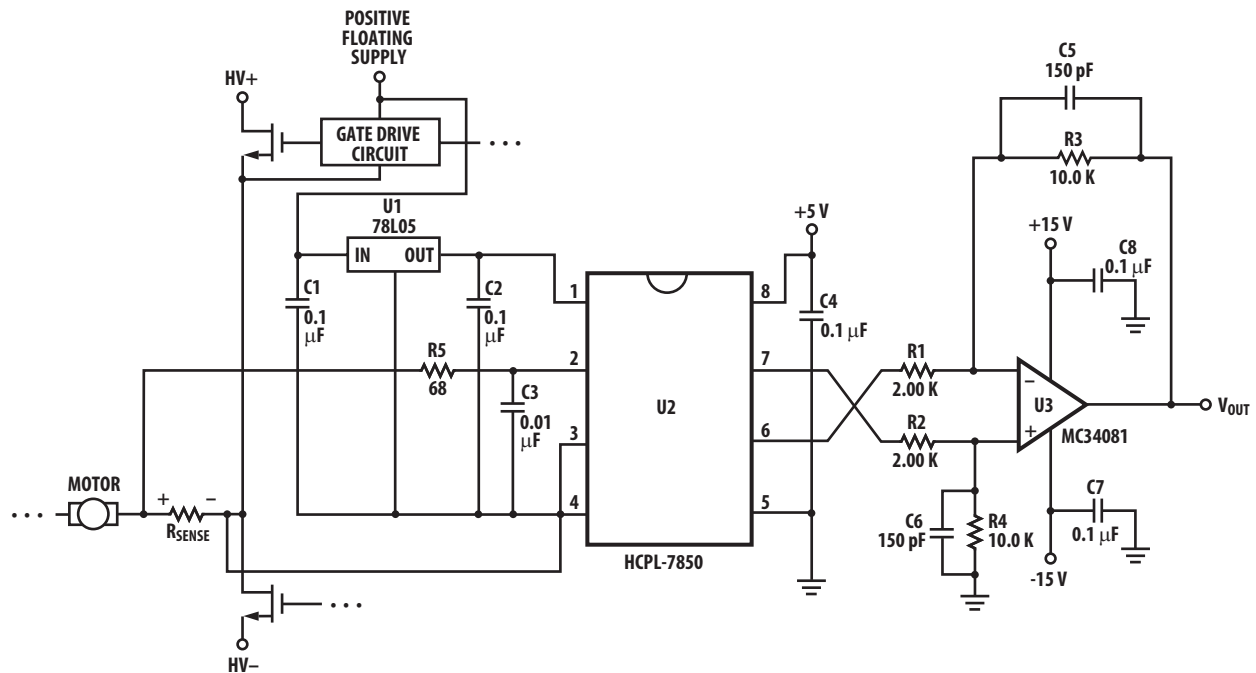

Figure 24. Recommended Application Circuit.
8. CMR (also known as IMR or Isolation Mode Rejection) specifies the minimum rate of rise of a common mode signal applied across the isolation boundary at which small output perturbations begin to occur. These output perturbations can occur with both the rising and falling edges of the common mode waveform and may be of either polarity. A CMR failure is defined as a perturbation exceeding 200 mV at the output of the recommended application circuit (Figure 24). See Applications section for more information on CMR.
The recommended application circuit is shown in Figure 24. A floating power supply (which in many applications could be the same supply that is used to drive the high-side power transistor) is regulated to 5 V using a simple three-terminal voltage regulator (U1). The voltage from the current sensing resistor, or shunt ( $R_{sense}$ ), is applied to the input of the HCPL-7850 through an RC anti-aliasing filter ( $R5$ ,  $C3$ ). And finally, the differential output of the isolation amplifier is converted to a ground-referenced single-ended output voltage with a simple differential amplifier circuit (U3 and associated components). Although the application circuit is relatively simple, a few recommendations should be followed to ensure optimal performance.
As shown in Figure 24, a 0.1  $\mu$ F bypass capacitor ( $C2$ ,  $C4$ ) should be located as close as possible to the input and output power supply pins of the HCPL-7850. The bypass capacitors are required because of the high-speed digital nature of the signals inside the isolation amplifier. A 0.01  $\mu$ F bypass capacitor ( $C3$ ) is also recommended at the input pin(s) due to the switched-capacitor nature of the input circuit. The input bypass capacitor should be at least 1000 pF to maintain gain accuracy of the isolation amplifier.
The recommended method for connecting the isolation amplifier to the shunt resistor is shown in Figure 24. Pin 2 (VIN+) is connected to the positive terminal of the shunt resistor, while pin 3 (VIN-) is shorted to pin 4 (GND1), with the power-supply return path functioning as the sense line to the negative terminal of the current shunt. This allows a single pair of wires or PC board traces to connect the isolation amplifier circuit to the shunt resistor. In some applications, however, supply currents flowing through the power-supply return path may cause offset or noise problems. In this case, better performance may be obtained by connecting pin 3 to the negative terminal of the shunt resistor separate from the power supply
The recommended application circuit (Figure 24) includes a post-amplifier circuit that serves three functions: to reference the output signal to the desired level (usually ground), to amplify the signal to appropriate levels, and to help filter output noise. The particular op-amp used in the post-amp is not critical; however, it should have low enough offset and high enough bandwidth and slew rate so that it does not adversely affect circuit performance. The offset of the op-amp should be low relative to the output offset of the HCPL-7850, or less than about 5 mV.
To maintain overall circuit bandwidth, the post-amplifier circuit should have a bandwidth at least twice the minimum bandwidth of the isolation amplifier, or about 200 kHz. To obtain a bandwidth of 200 kHz with a gain of 5, the op-amp should have a gain-bandwidth greater than 1 MHz. The post-amplifier circuit includes a pair of capacitors (C5 and C6) that form a single-pole low-pass filter. These capacitors allow the bandwidth of the post-amp to be adjusted independently of the gain and are useful for reducing the output noise from the isolation amplifier (doubling the capacitor values halves the circuit bandwidth). The component values shown in Figure 24 form a differential amplifier with a gain of 5 and a cutoff frequency of approximately 100 kHz, and were chosen as a compromise between low noise and fast response times. The overall recommended application circuit has a bandwidth of 66 kHz, a rise time of 5.2  $\mu$ s and a delay to 90% of 8.5  $\mu$ s.